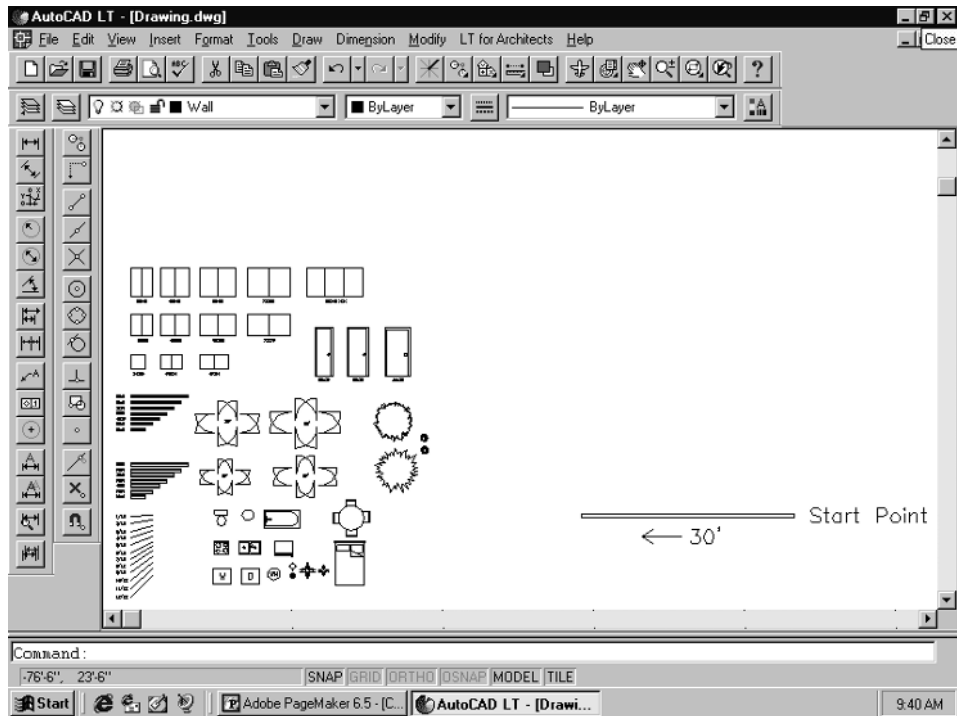

Figure 2-5
2. For the start point of your first wall, pick a point in the lower right-hand quarter of your screen and press the left mouse button. Then pull your mouse left, type **30'**, and hit the **Enter** key. The first wall will be drawn as shown in Figure 2-5. Do not forget to add the feet sign (') when typing in the 30'.